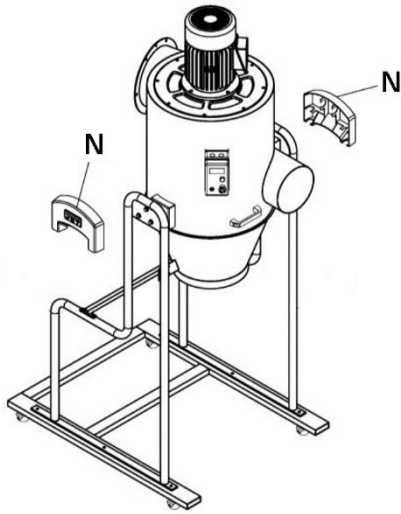

Figure 7
8. Install side cover (N) on left and right stands. See Figure 7.